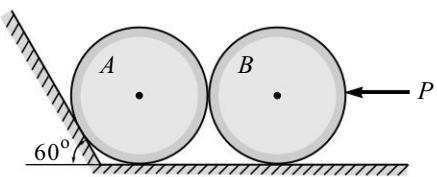

Fig. 3.E26
27. A man weighing 75 N stands on the middle rung of a 25 N ladder resting on a smooth floor and against a wall as shown in Fig. 3.E27. The ladder is prevented from slipping by a string *OD*. Find the tension in the string and reactions at *A* and *B*.